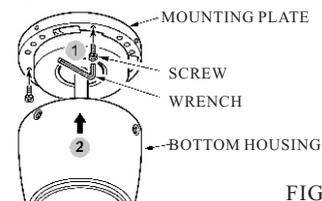

FIG.8
5. Tighten the 3 screws to fix the motor.using allen screws and wrench provided.(see fig.8)